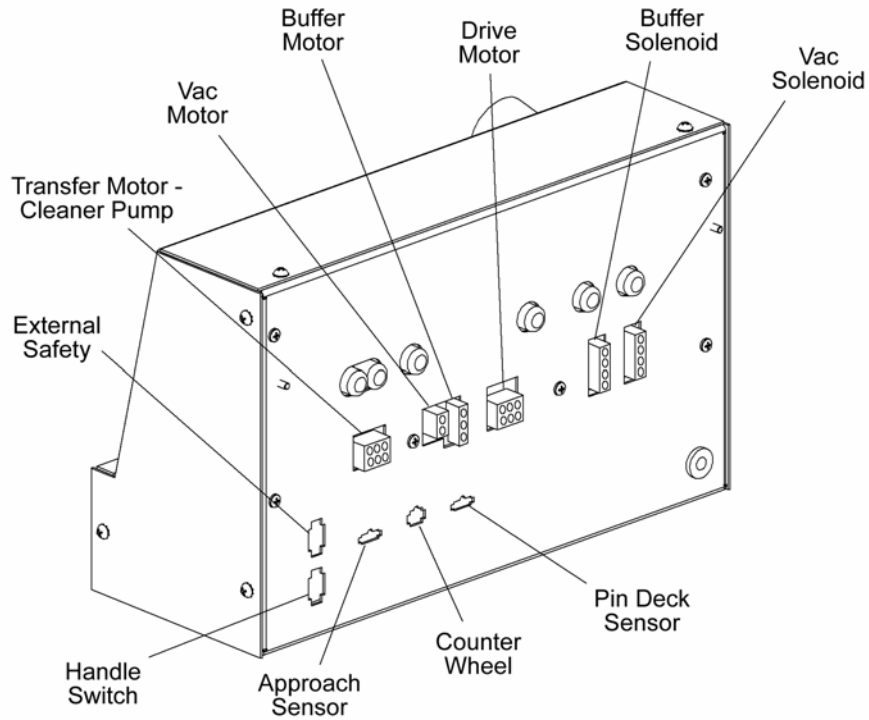

Figure 4-23
5. Follow the path of the sensor wire through the wire harness to the connector at the back of the control enclosure. The connector is attached to the slot on the right in the bottom row, as shown in Figure 4-23.
5. Follow the sensor wire through the hole in the side of the machine, to the wire harness, and to the connector at the back of the control enclosure. The connector is the one on the bottom row that is two to the left of the pin deck sensor, as shown in Figure 4-23.